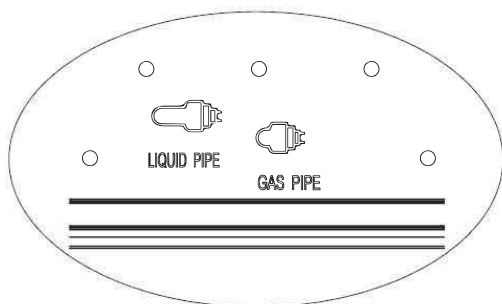
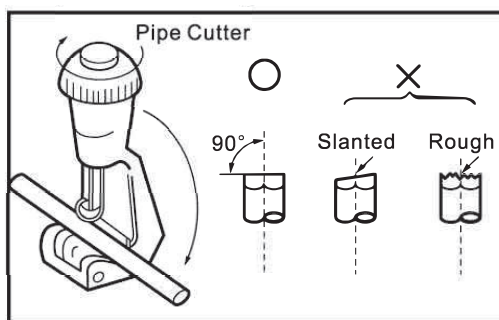

Fig. 4
Fig. 5
- 1) Cut the liquid pipe and gas pipe to the right length according to the position mark on the wall mounting plate (Fig. 4). Ensure that the cut is flat (Fig. 5).